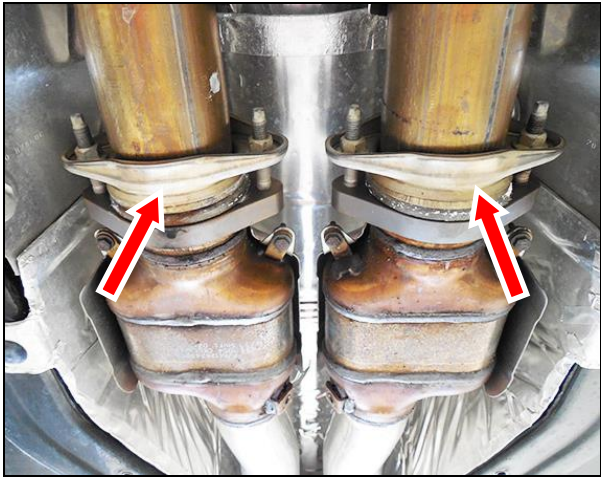
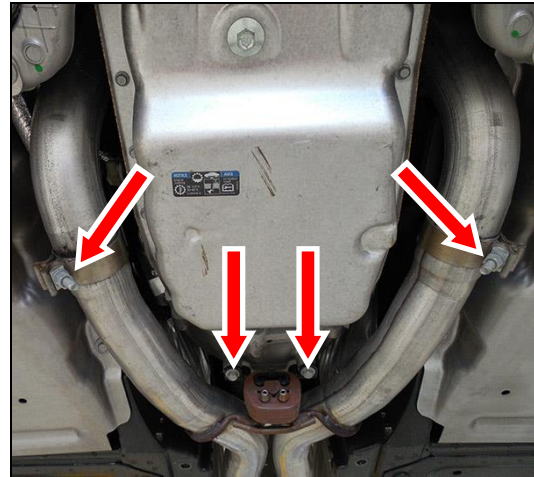

Figure 4
Figure 5
6. Support the X-pipe and remove the (x4) 15mm nuts at the flanges on the down pipes (**Figure 4**). Loosen the 15mm clamp bolts at the slip joint connecting the X-pipe to the over-axle pipes (**Figure 5**). Remove the (x2) 13mm bolts at the center support hanger on the X-pipe (**Figure 5**). Remove the X-pipe from the over-axle pipes.
6. Install the X-pipe with cats onto the down pipes and tighten the (x4) 15mm nuts to allow for adjustment. Support the X-pipe assembly. Install the center support hanger assembly and tighten the (x2) 13 mm bolts (**Figure 5**). Adjust the position of the cats if necessary and tighten the (x4) 15mm nuts (**Figure 4**). Install the 3" Torca couplers onto the outlet of the X-pipe with the bolts towards the transmission and the nuts facing down.